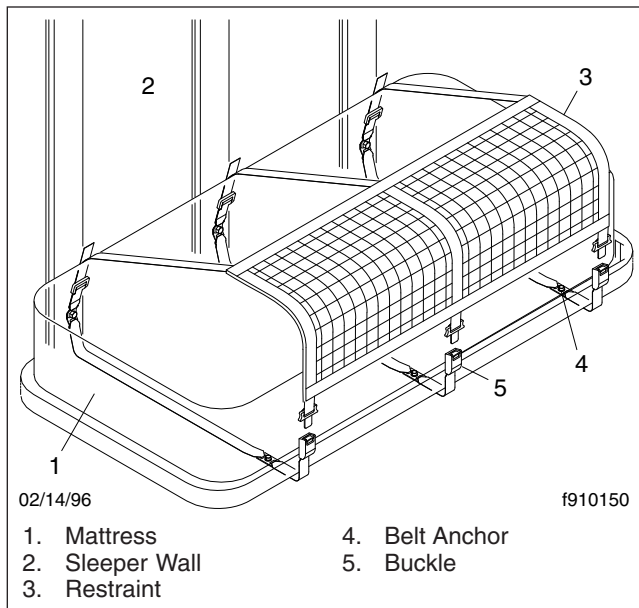

Fig. 7.13, Bunk Restraint
1. Starting at the foot of the bunk, pull the link end of the belt up far enough to engage the buckle. See Fig. 7.13.